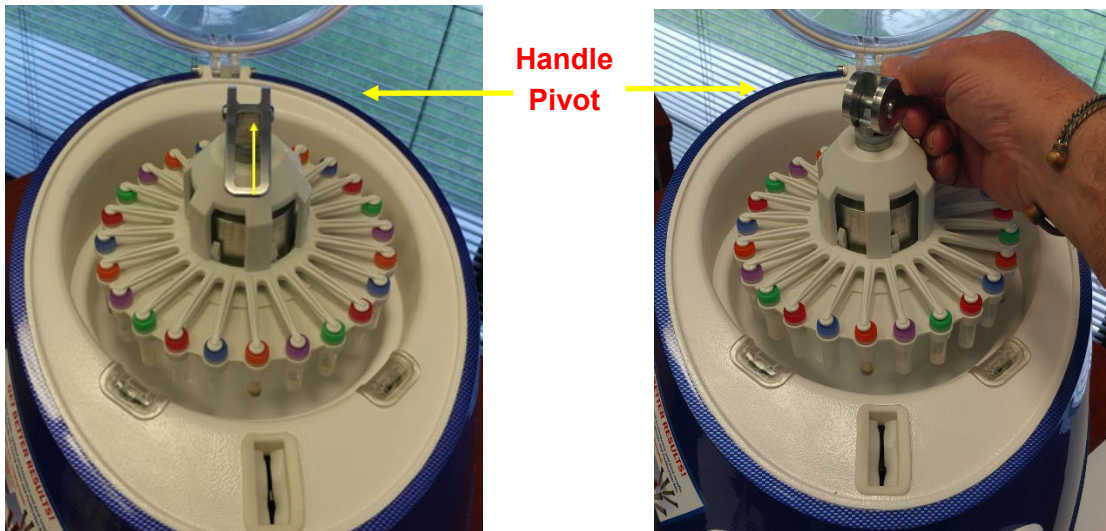

Figure IV-14: Lift Cam Handle Upwards Figure IV-15 Cam Handle Unlocked
21. Once sample processing is complete, to remove 'Adaptor' from instrument, first unlock 'Cam Lock' by lifting handle upward and around the handle pivot (Figure IV-14), until the 'Cam Lock' is in the unlocked position (Figure IV-15). This requires moderate force. Steady the 'Adaptor' with free hand for better grip and to eliminate any rotation around 'Ratchet Bolt.'